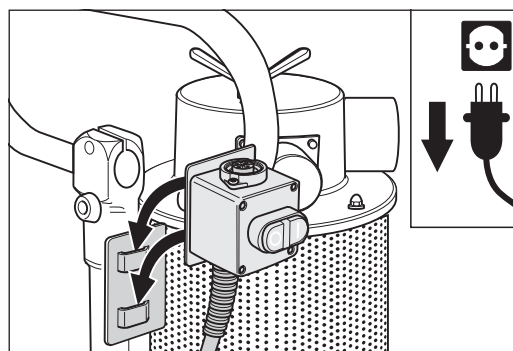

Fig. 56 Hook the switch into holder on the chassis.
- 3 Remove the on/off switch from motor switch box and hook it into holder on the chassis (fig. 56).